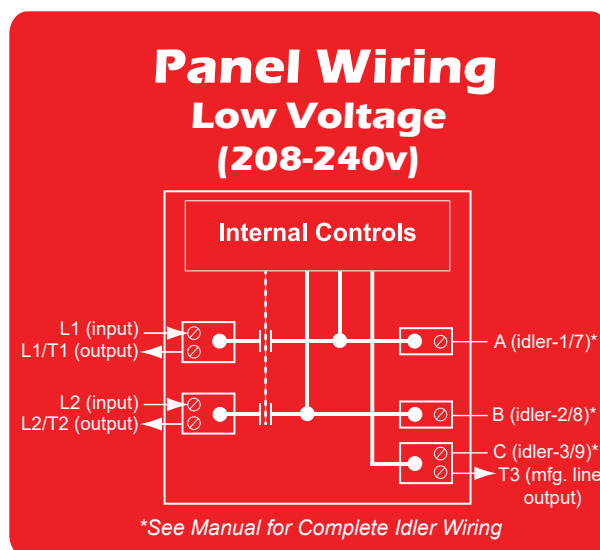

Figure 3.2.1 (\*Lug diagram may be different on larger units)
Locate the (A) terminal. Connect one wire to this single barrel lug. This wire should connect to wires 1 and 7 inside the idler junction box using ring terminals bolts and nuts. (See fig 3.2.1 & 3.2.2 on pg 11.)
Locate the (B) terminal. Connect one wire to this single barrel lug. This wire should connect to wires 2 and 8 inside the idler junction box using ring terminals bolts and nuts. (See fig 3.2.1 & 3.2.2 on pg 11.)
Locate the (C) terminal. Connect one wire to this double barrel lug. This wire should connect to wires 3 and 9 inside the idler junction box using ring terminals bolts and nuts. (See fig 3.2.1 & 3.2.2 on pg 11.)
Connect wires to L1/L2 lugs and connect ground wire to the ground lug. (See fig. 3.2.1 on pg 11.)